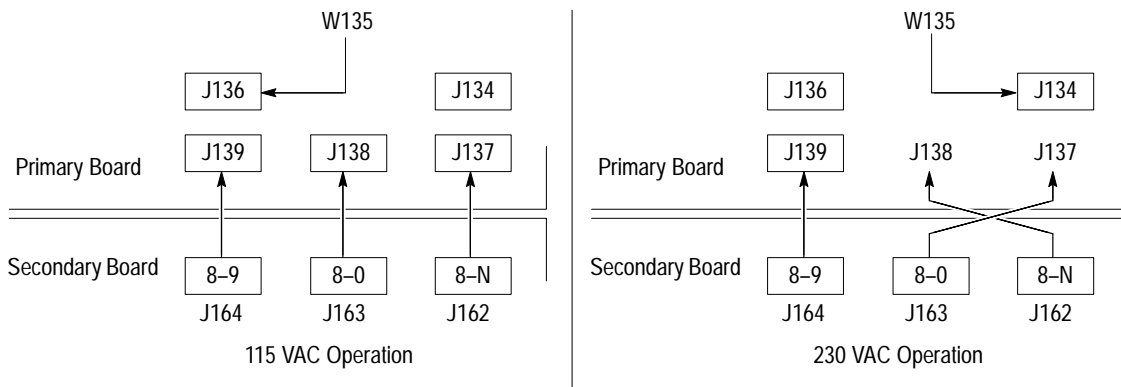

Figure 2-3: Position of Line Voltage Selection Jacks for 115 V or 230 V Operation
5. Refer to Figure 2-3 to determine the current line selection.
NOTE. The numbers 8-9, 8-0, and 8-N in Figure 2-3 indicate the following wire-color code (resistor color code standard):